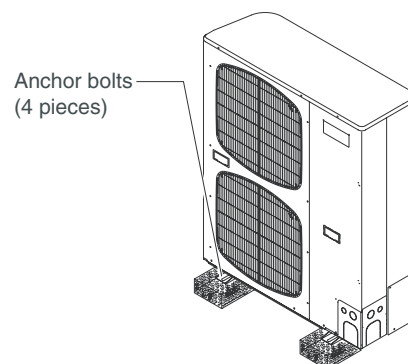

Fig. 1-4
- provide a solid base (concrete block, 4" x 16" beams or equal), a minimum of 6" above ground level to reduce humidity and protect the unit against possible water damage and decreased service life. (Fig. 1-4)